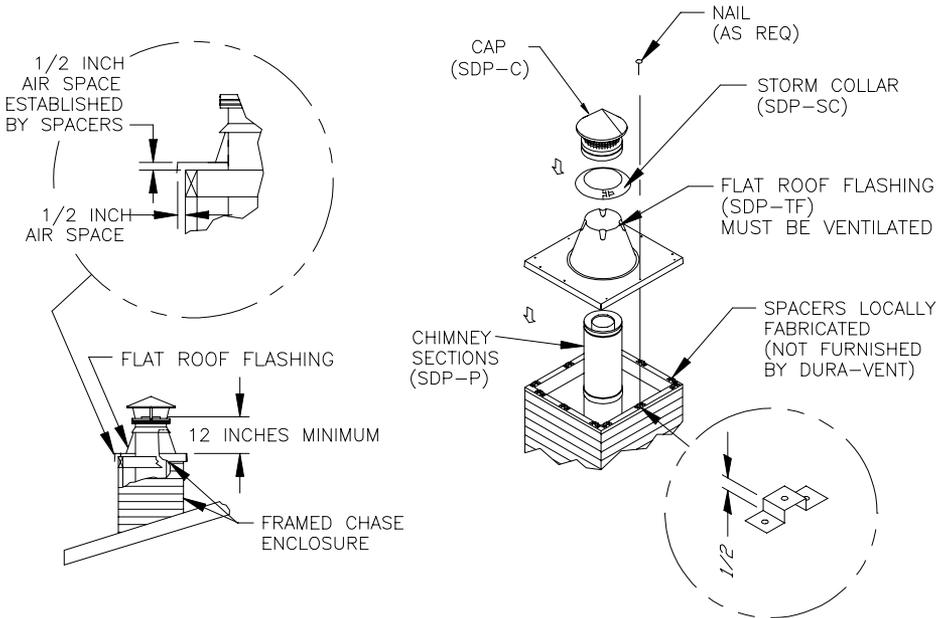

Fig 29
7. Install Chase Cover. If a chase enclosure has been constructed, installing the chase cover requires some special considerations, in that a **1/2-inch air gap** must be established between the cover, and the framed chase top. In addition, a **1/2-inch air gap** should exist between the hole in the cover, and the **Chimney Pipe Sections**. Figure 29 displays in some detail, how these air gaps are established with locally fabricated spacers and covers. These are not furnished by Simpson Dura-Vent, but may be made from 28 gage or heavier sheet metal. Should the installer elect to use **Flat Roof Flashing**, (which is a stock item), the air spaces are still required. When installing the **Storm Collar**, do not push it down all the way to the cover, but allow an air space for flow between the **Chimney Pipe** and the hole in the cover.